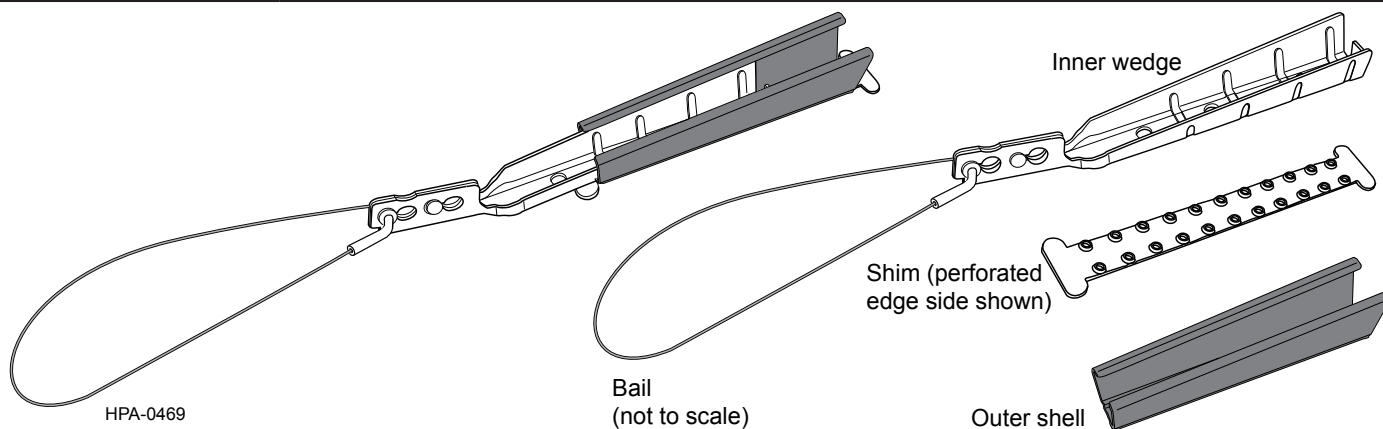

Figure 1
1.1 This procedure provides general instructions for the Mechanical Wedge Dead-end Clamp (p/n RPD-DEADEND-E1) for RPX® Gel-Free Ribbon and FlexNAP™ System RPX Cables used in a self-supporting aerial installation (Figure 1).